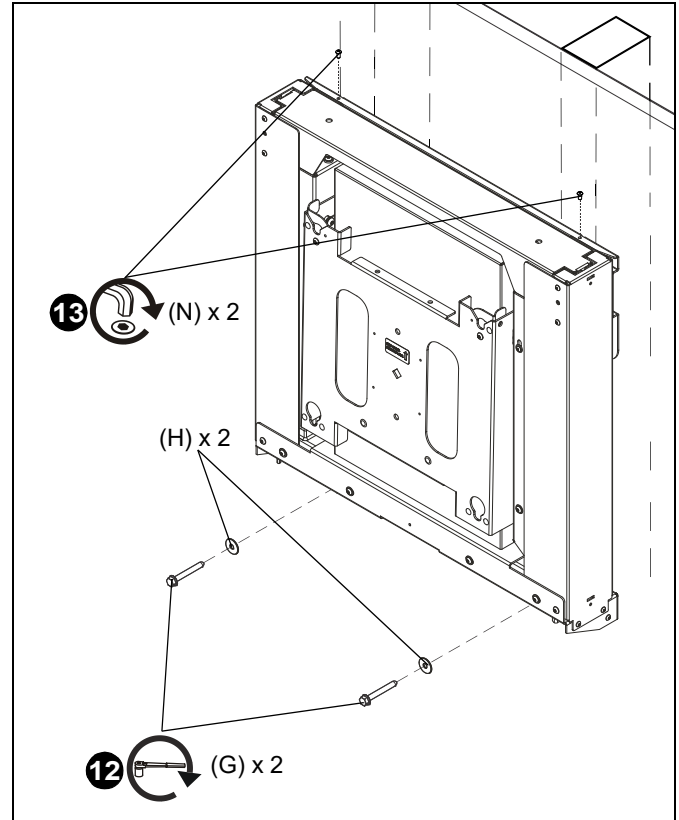

Figure 11
12. Hang wall mount back onto top bracket and install two 5/16 x 2 1/2" hex head cap screws (G) through two 5/16" washers (H), lower mounting holes on mount and into concrete anchors. (See Figure 11)
13. Use two 1/4-20 x 1/2" button head cap screws (N) and 1/8" hex key (R) to secure mount to wall. (See Figure 11)